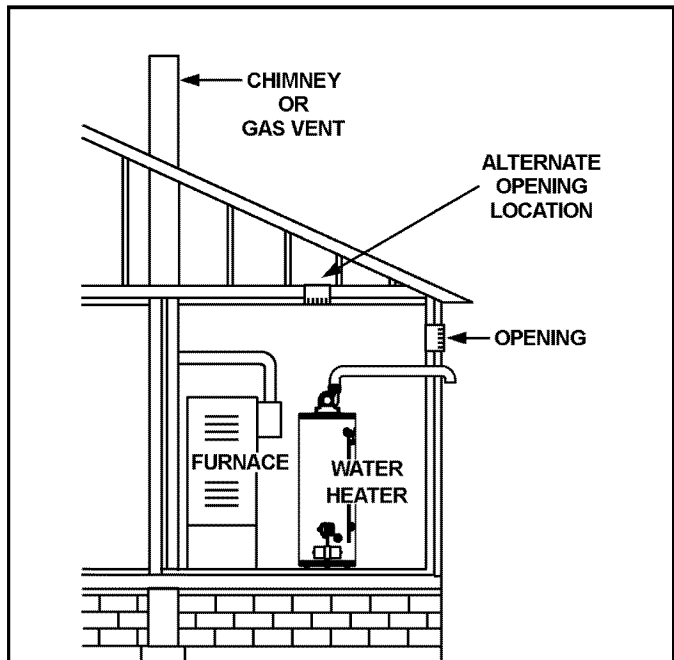

Figure 20.
- Alternatively a single permanent opening may be used when communicating directly with the outdoors, or with spaces that freely communicate with the outdoors. The opening shall have a minimum free area of 1 square inch per 3,000 Btu/hr of total input rating of all equipment in enclosure (see Figure 20).